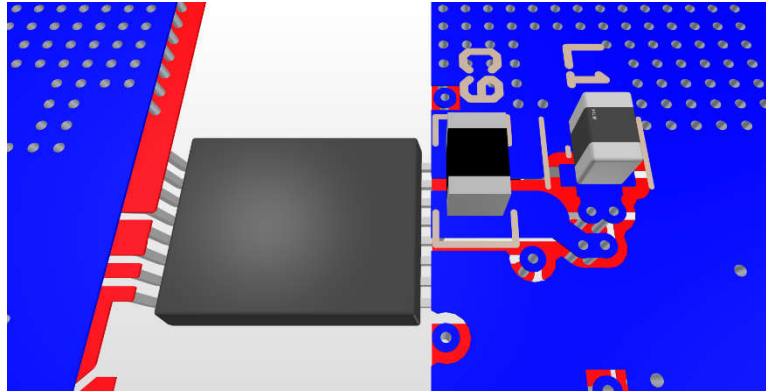

Figure 8-9. Bottom Side, Buck Boost, VEE LC Placement and Routing
- a. Place the 2.2 μ F high frequency bypass capacitor (C9) as close as possible to VEE and COM pins. The self-resonant frequency in 3MHz to 4MHz is most ideal to offer low impedance decoupling for the switching frequency noise of the buck-boost converter with the 3.3 μ H inductor (L1) selection. It is possible to put the capacitor on the different side of PCB and use vias to connect, to reduce the switching loop between the capacitor and the internal low-side MOSFET of the VEE buck-boost converter. In addition, putting the capacitor on different side also simplifies the decoupling capacitor placement of VDD pin and COM pin. An example of bottom side PCB placement of C9 and L1 is shown in Figure 8-9.